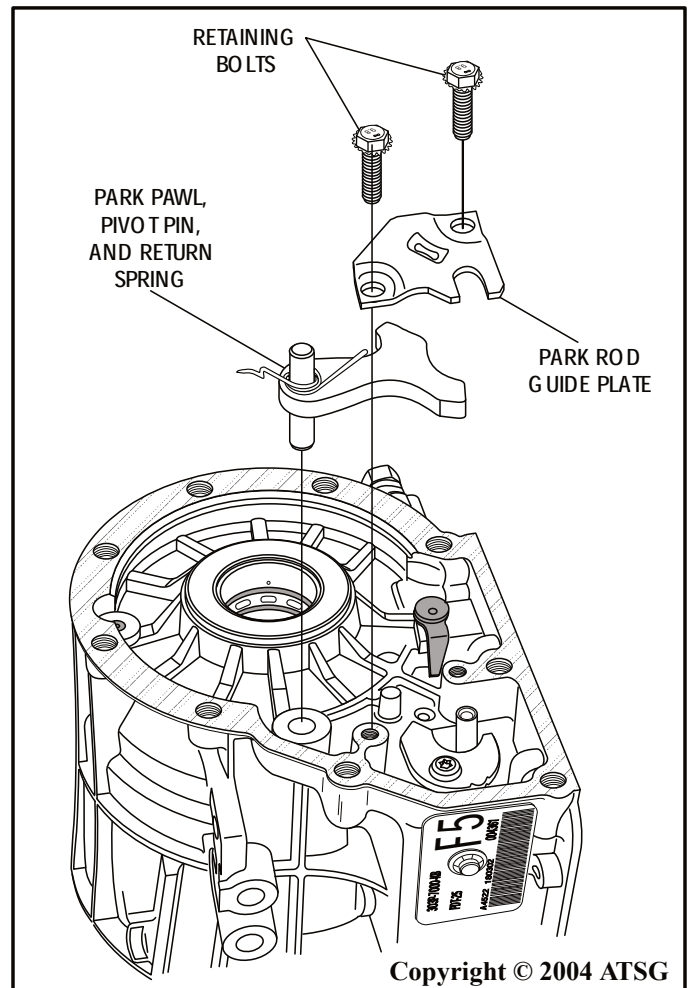

Figure 61
16. Rotate transmission in fixture so that the rear surface is facing up, as shown in Figure 61.
17. Install the parking pawl, pivot pin and return spring, as shown in Figure 61, and ensure that return spring is hooked properly behind case.
18. Install the parking rod guide plate, as shown in Figure 61.